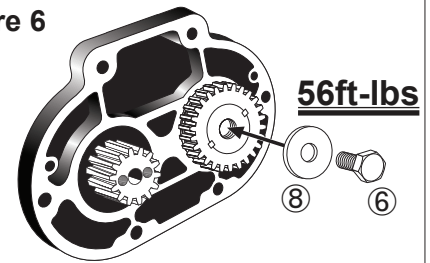

Figure 7
15. **See Figure 7.** Install the side cover gasket (Inner), Reverse gear housing, Two supplied dowel pins, side cover gasket (Outer).